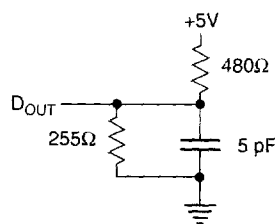

Figure 2. Output Load Equivalent
5. Transition is measured ± 500 mV from steady-state voltage with load of Figure 2. This parameter is sampled rather than 100% tested. At any given voltage and temperature, t_{CHZ} max is less than t_{dc1} min for a given device and from device to device.